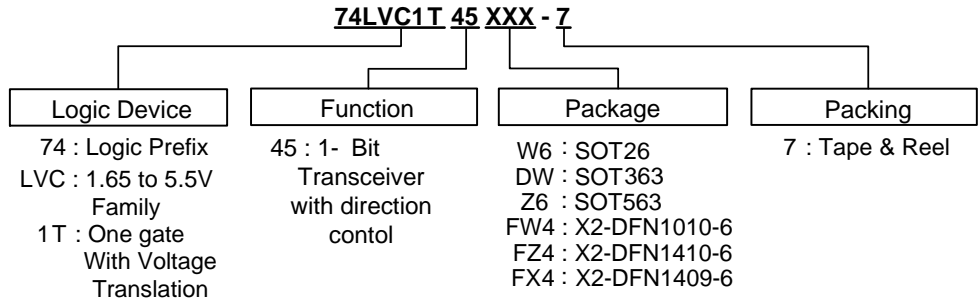

**Figure 1. Load Circuit and Voltage Waveforms**
**Switching Characteristics** ( $V_{CC} (A) = 1.8V \pm 0.15V$ ,  $T_A = -40^\circ C$  to  $+85^\circ C$ , see Figure 1)
**Switching Characteristics** (cont.) ( $V_{CC} (A) = 2.5V \pm 0.2V$ ,  $T_A = -40^\circ C$  to  $+85^\circ C$ , see Figure 1)
**Switching Characteristics** (cont.) ( $V_{CC(A)} = 3.3V \pm 0.3V$ ,  $T_A = -40^\circ C$  to  $+85^\circ C$ , see Figure 1)
**Switching Characteristics** (cont.) ( $V_{CC(A)} = 5V \pm 0.5V$ ,  $T_A = -40^\circ C$  to  $+85^\circ C$ , see Figure 1)